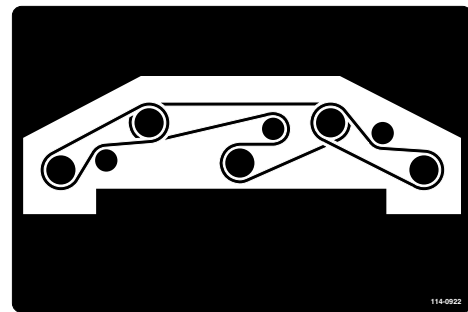

Figure 78
6. Route the new belt around the spindle pulleys and idler pulley assembly as shown in Figure 78.